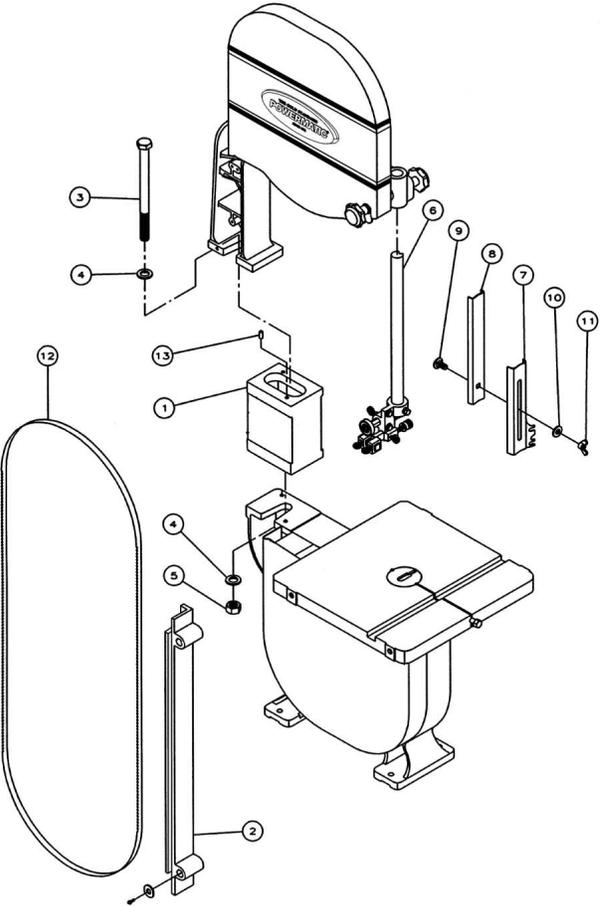

Figure 1
9. Fasten new blade guard (Item #2, Figure 1) to the saw arm and saw body.
17. Fasten the new blade guard assembly (Items #7 thru 11, Figure 1) to the upper blade guide bracket.